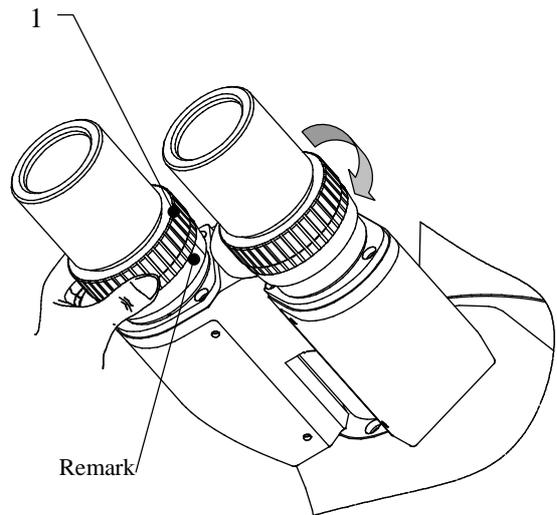

Fig.8
Turn the diopter ring \perp of the left and right eyepiece tube, and when the “0” diopter position is aligned with the side scale (mark white line), as shown in Fig. 8
- (6) The tension of the coarse focus control knob 2 is adjustable and preset at the factory for ease of use. If you wish to adjust the coarse focus tension, turn the tension knob 4 to adjustment. Turn the wheel anticlockwise increase the tension, and clockwise decreases it, as indicated by the arrow in the figure 8.